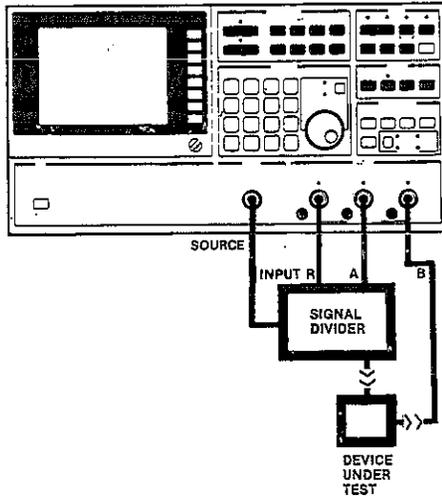

Figure 7. Two Port Transmission Measurement
**Transmission Measurements.** By using the HP 3577A's transmission calibration and ratio measurement functions, the gain or loss of the device under test can be displayed directly in decibels or linear ratio units. The transmission calibration function removes the effects of the HP 35676A/B Signal Divider and connecting cables. The HP 3577A measurement function B/R calculates the gain or loss of the test device. The test device is connected between the signal divider test port and the HP 3577A RECEIVER B port with the flexible cable included in the test kit. See Figure 7.